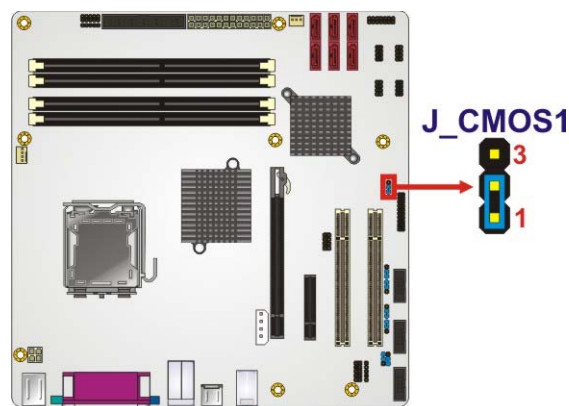

Figure 4-9: Clear CMOS Jumper
- Jumper Location:** See **Figure 4-9**
The location of the clear CMOS jumper is shown in **Figure 4-9** below.